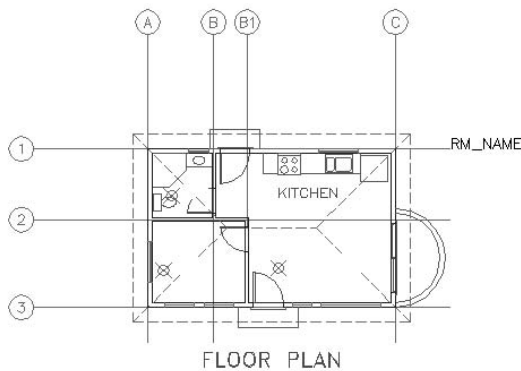

FIGURE B.9: The room name attribute definition placed in the drawing
9. In the drawing, use Endpoint Osnap and click the right end of the grid line that has the number 1 in the circle. The first attribute definition is placed in the drawing (see Figure B.9). Because we're going to make a block out of it and reinsert it into the rooms, we don't have to place the attribute definition where the room labels are; any place on the edge of the drawing is fine.